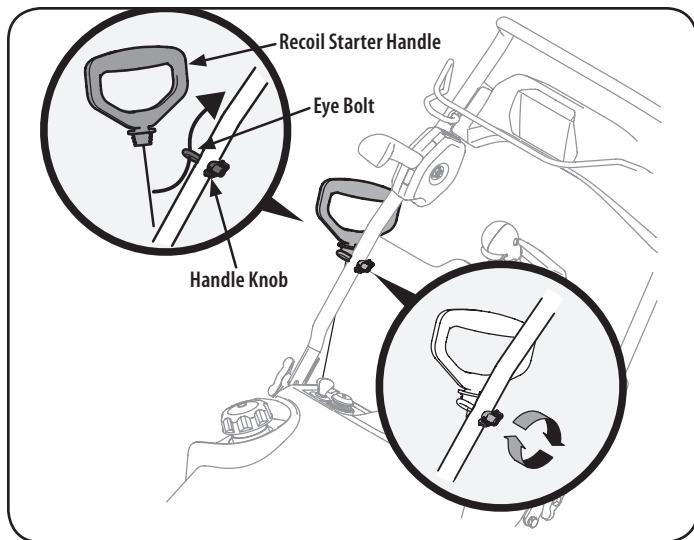

Figure 10
2. Place the eye bolt and handle knob on the upper handle as shown in Figure 10. Do not fully tighten the hardware until instructed to do so.
4. Slip the recoil starter rope into the eye bolt from the back side of the snow blower. See Figure 10.